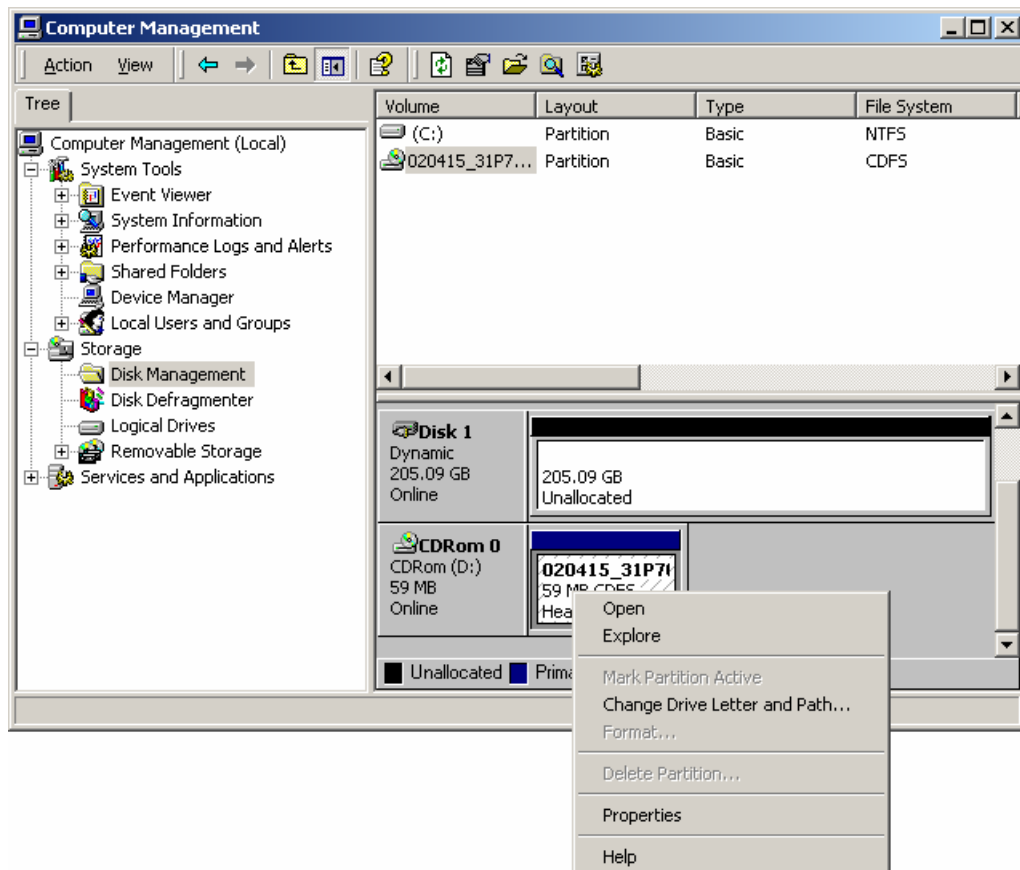
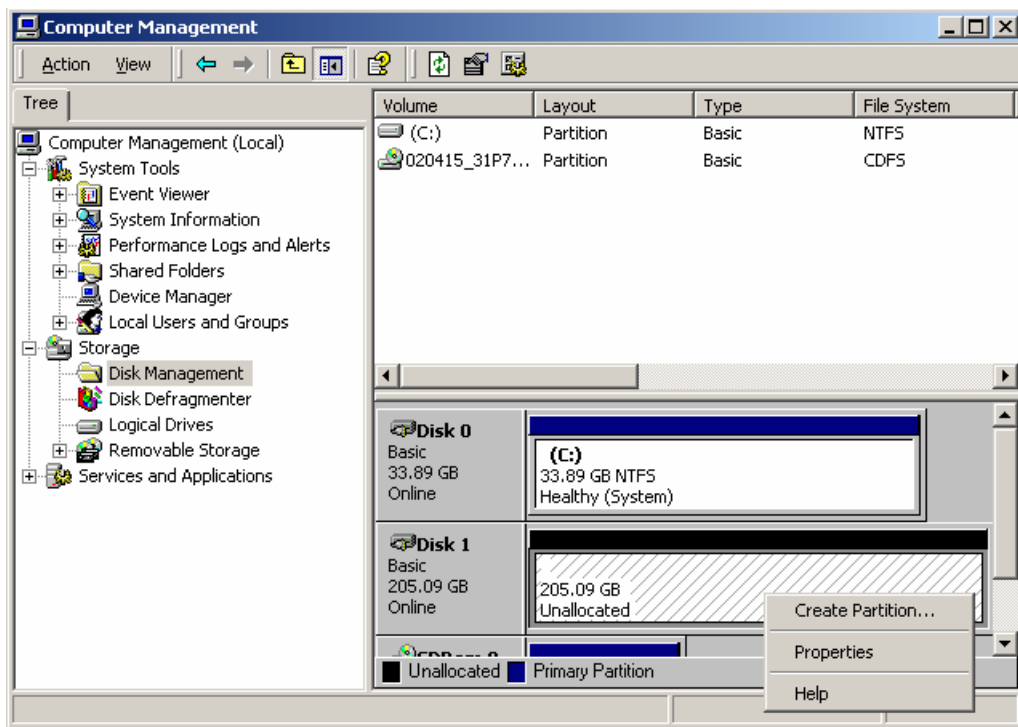

Figure 2-35 Right-click menu of CD-ROM drive
Figure 2-39 Creating extended partition
- 1) Right-click in the CD-ROM drive area. Select [Change Drive Letter and Path] from the shortcut menu, as shown in Figure 2-35.
- 1) As shown in Figure 2-35, right-click in the [Unallocated] area in [Disk 1]. See Figure 2-39.